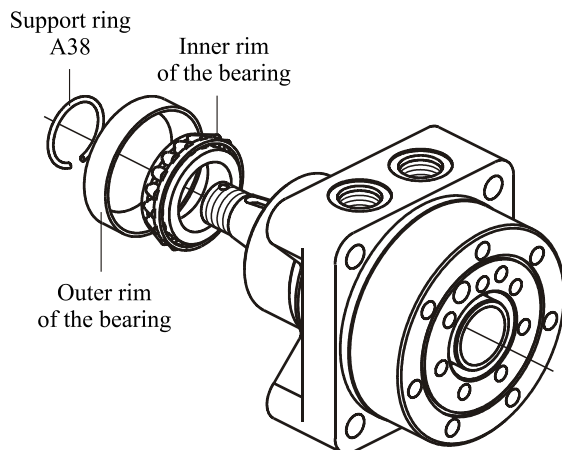

Fig.9
5. Install on the shaft the inner rim, then outer rim of the front bearing as shown on Fig.9. Fix bearing unit to the shaft with support ring A38.